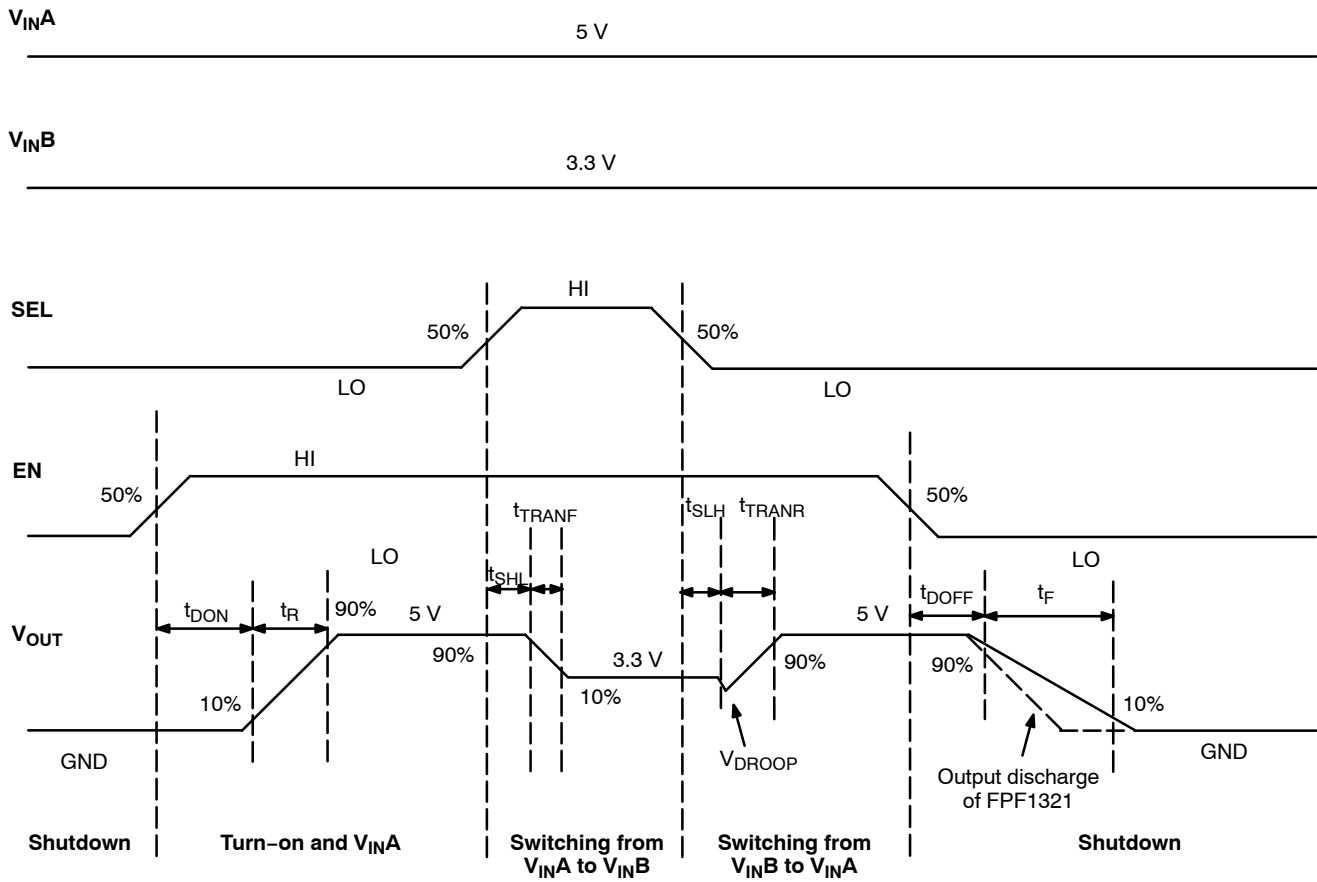

Figure 4. Dynamic Behavior Timing Diagram
4.  $t_{DON}/t_{DOFF}/t_R/t_F/t_{TRANR}/t_{TRANF}/t_{SLH}/t_{SHL}$  are defined in Figure 4.